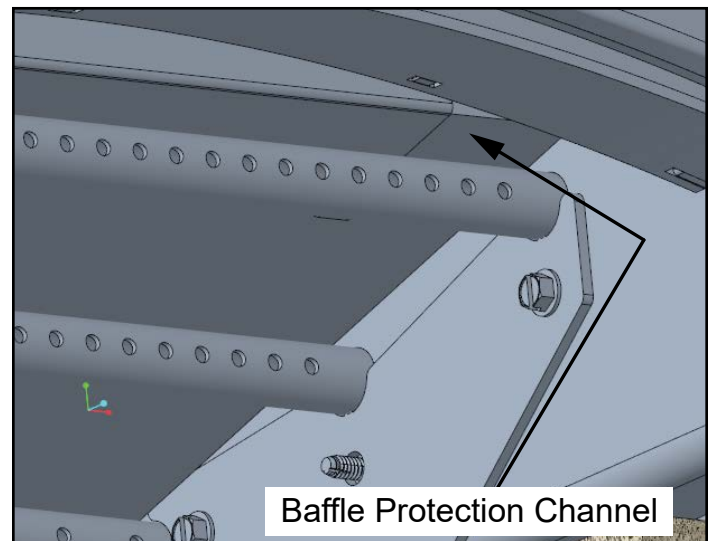

Figure 20.3
2. Remove the baffle protection channel by bending back the tabs using needle nose pliers located at the right and left side of the protection cover. Lift the cover up slightly and pull toward the front and out of the firebox (**Figure 20.3**).